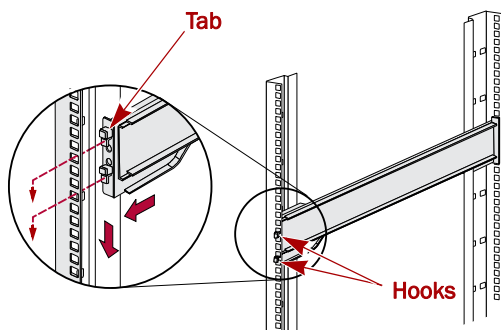

Figure 5. Attaching Front of Rail
1. Attach the **left outer rail** to the rack (Figure 5):